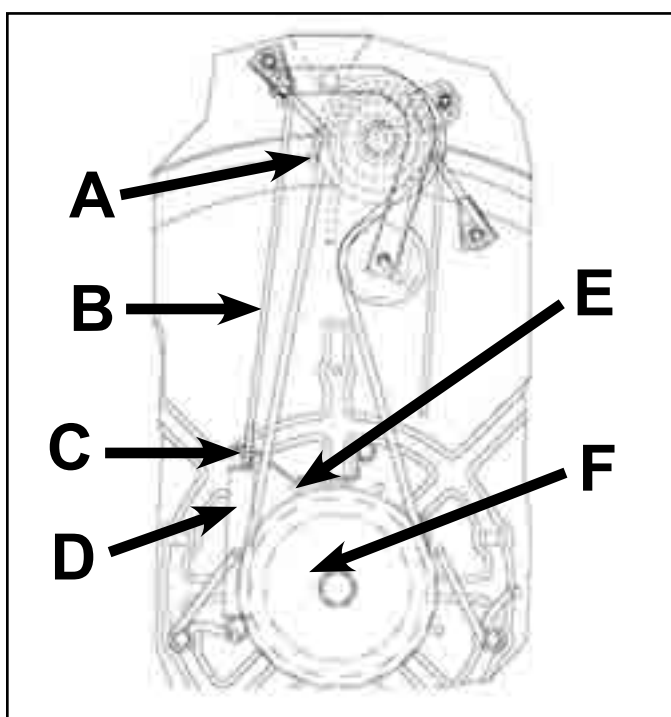

Fig A6 001 belt guide
3. Check the clearance between the brake pad on the brake arm assembly and the mower drive pulley. It should be set at .015" (.38mm) gap (Fig. A6 001).